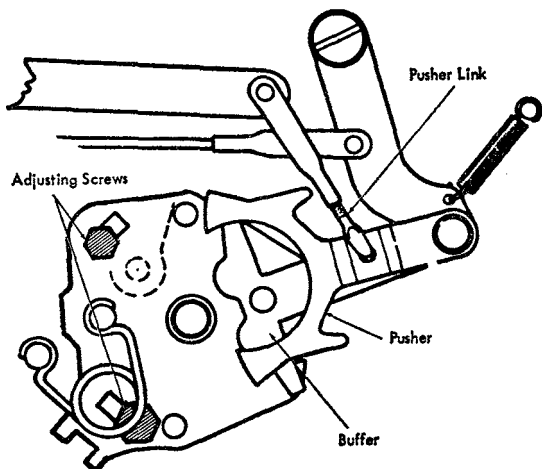

Figure 33. Pin Clearance Adjustments
5. EQUAL PIN-CLEARANCE. Loosen the adjusting screws and position the shift-pin toggle-plate so that the clearance between the upper and lower pins and their respective pusher arms are equal (Figure 33).